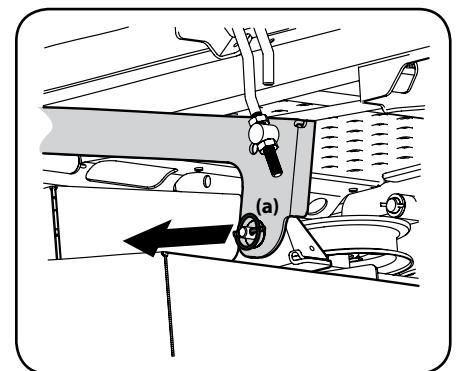

Figure 4-19
6. Locate the LH and RH deck release pins (a) on each side of the deck. Pull the release pins outward and release the deck from the LH and RH deck lift arms. See Figure 4-19.
5. Pull the deck release pins outward and maneuver the deck as necessary to align the holes in the deck lift arms with the pins. Refer to Figure 4-19.